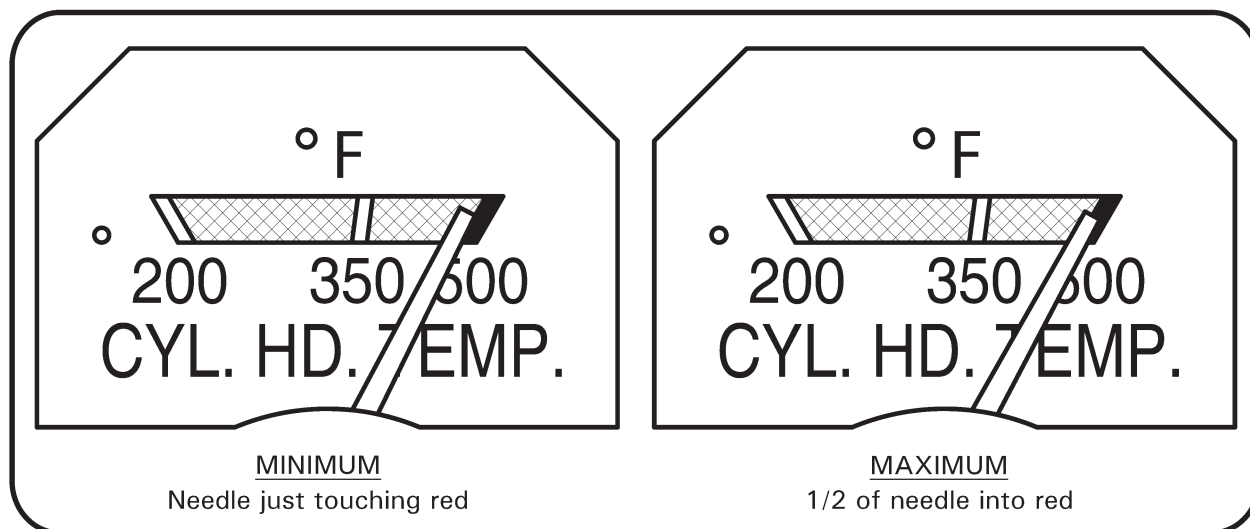

FIGURE 33-3 CYLINDER HEAD TEMPERATURE GAGE CALIBRATION
6. Refer to Figure 33-3. Push in GAGES 2-amp circuit breaker. Turn battery switch on and observe CHT gage. Adjust potentiometer screw on C691-1 circuit board assembly until gage indicates within limits shown with console in closed position (CHT probe resistance is 32 ± 0.4 ohms at 500° F).